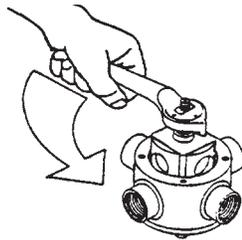

Figure 5.9D
4. Remove the rotor and four seals as a unit from the body. **IMPORTANT:** Because of the close tolerance, care must be taken to remove the rotor on its axis to prevent damage to the rotor and body. Rotating the handle with a lifting action will help remove the rotor as shown in figure 5.9D.